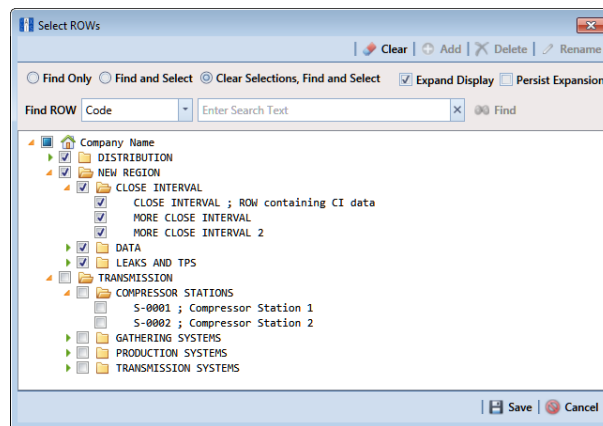

Figure 7-20. Select ROWs
- 1 Click the **Select ROWs** button  to open the *Select ROWs* window (Figure 7-20).